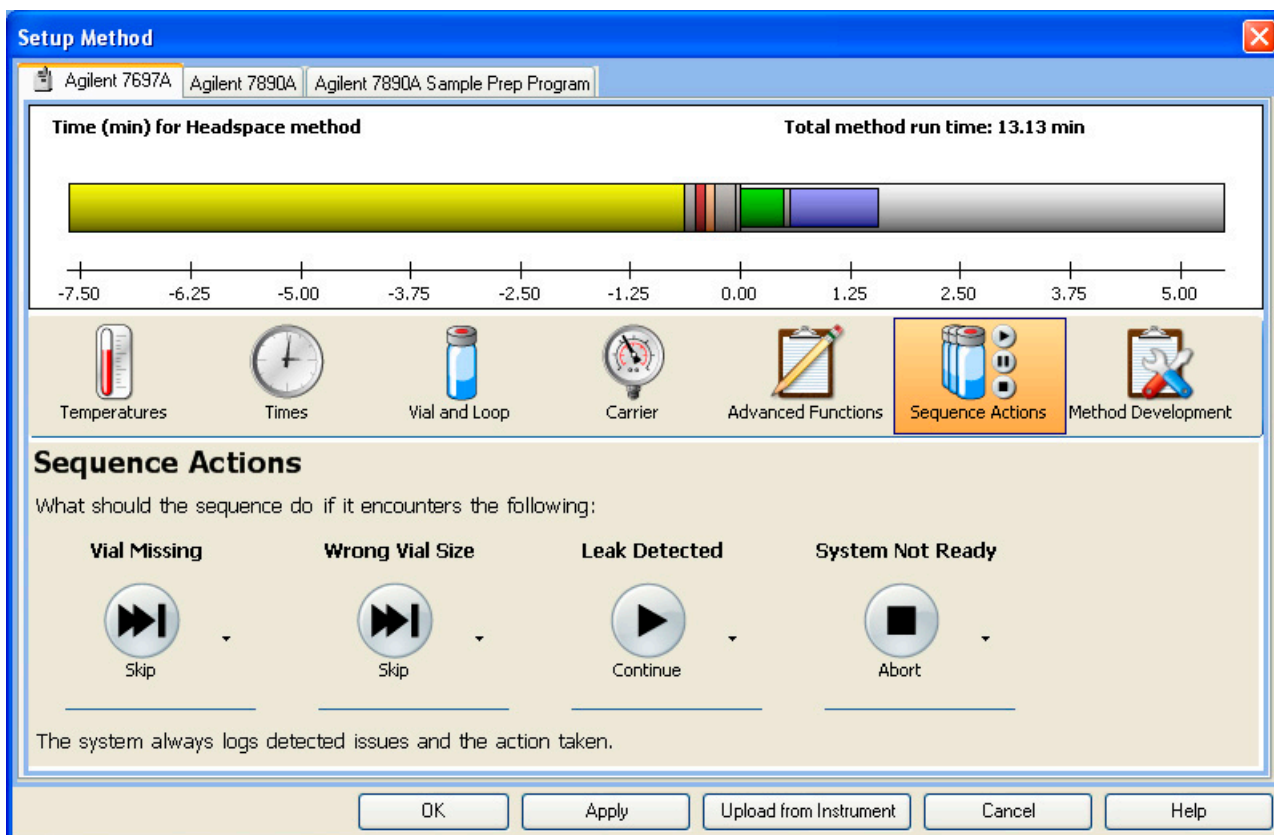

**Figure 19** Setting the sequence actions
- 8 Select the **Sequence Actions** icon and set the parameters shown in Figure 19.